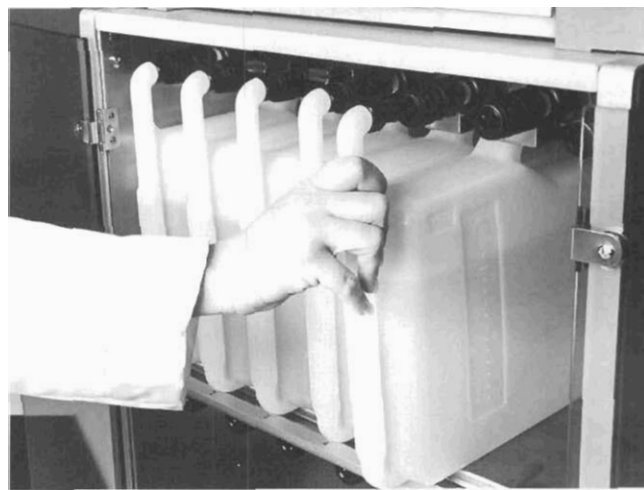

Figure 2-7
- Carefully slide the bottle into the proper station, cap end first, until the nozzle begins to slide into the quick-release connector (Figure 2-7).